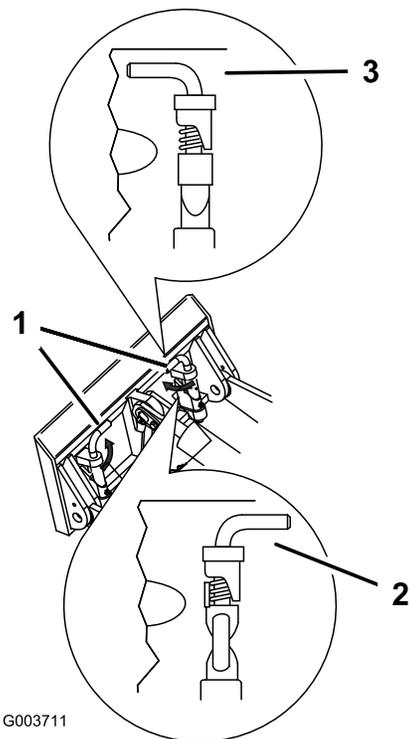

Figure 16
7. Engage the quick attach pins, ensuring that they are fully seated in the mount plate (Figure 16).